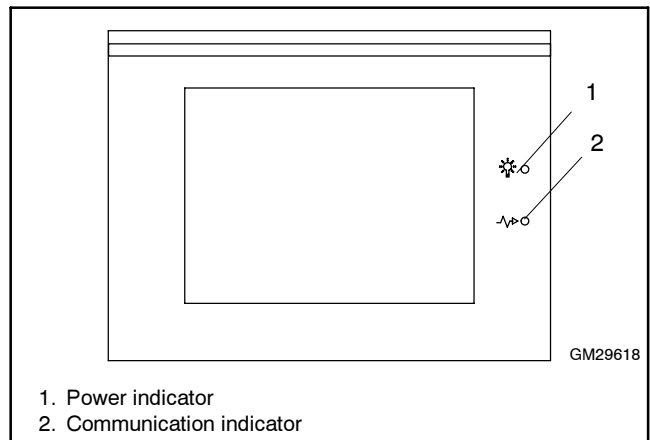

Figure 9 Annunciator LEDs
2. Two LEDs to the right of the annunciator screen indicate the annunciator status. See Figure 9. The upper LED lights to indicate power to annunciator. The lower LED lights and flickers to indicate communication between the annunciator and the transfer switch network. If the lower LED is not lit, the annunciator is not communicating with the transfer switch network.